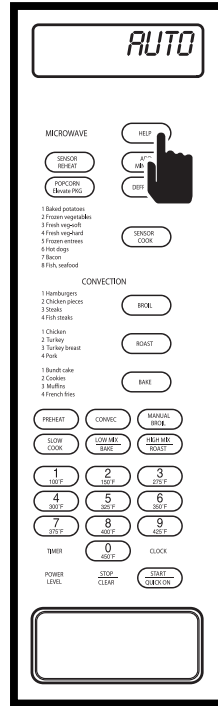

Figure 3-45.
1. Press the HELP key and five help features will flash on the display, the third one will read "AUTO - START - PRESS 3" (See Figure 3-45).